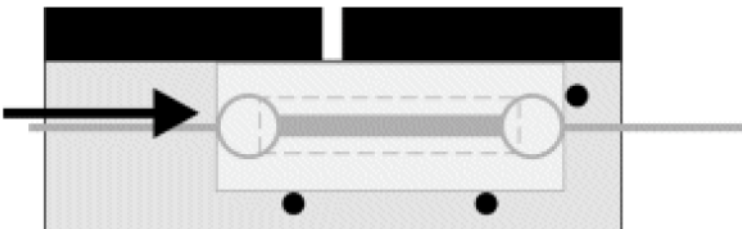

Figure 5-10: Slide cartridge against the right pin.
13. Gently slide the cartridge to the right until it stops at the right positioning pin (Figure 5-10).